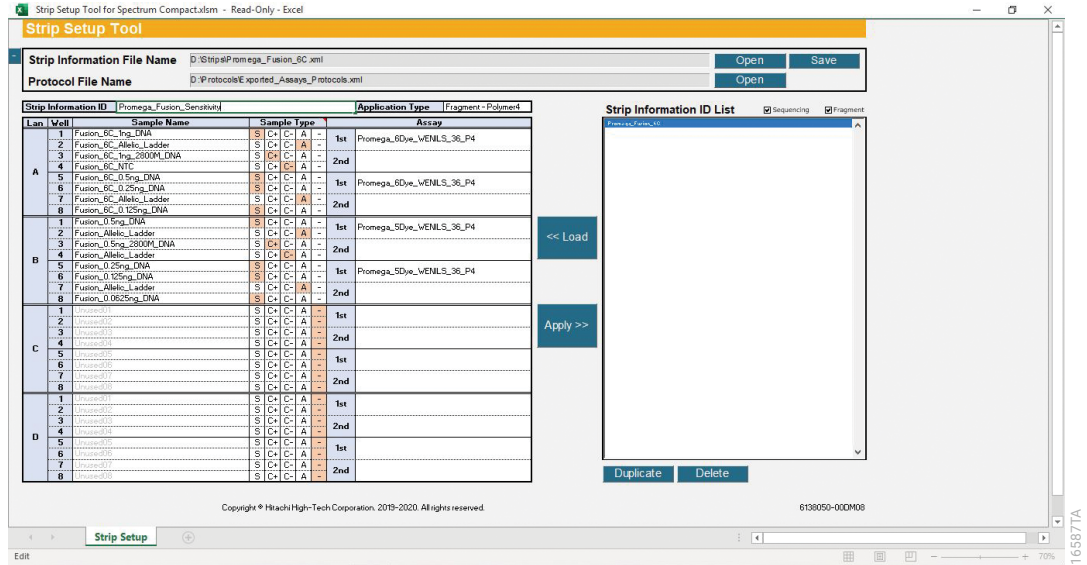

Figure 253. Strip Setup Tool for Spectrum Compact with edited new Strip Information ID.
- Edit the information for the new strip following the instructions for Creating New Strip Information (Section 13.7.2). If desired, a new Strip Information ID can be assigned (Figure 253).